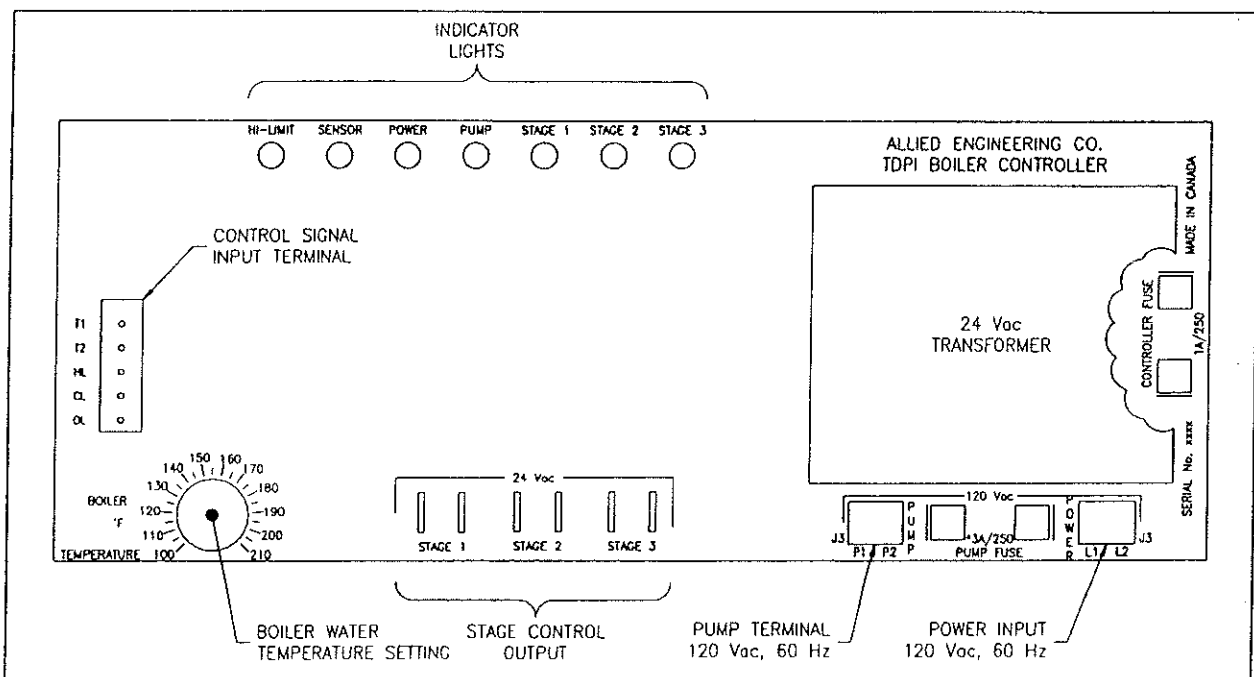

Figure 3 – Temptronic Controller Layout
1. Set the boiler operating temperature to the designed heating water temperature by adjusting the dial of potentiometer located on the bottom-left of the controller (see Figure 3). Use a screwdriver to adjust the arrow on the temperature adjustment dial to the water temperature required. This boiler is also equipped with a non-adjustable, high-limit temperature device set at 230°F as safety limit control. The high limit temperature device has an automatic reset function.
Controller layout:	see figure 3